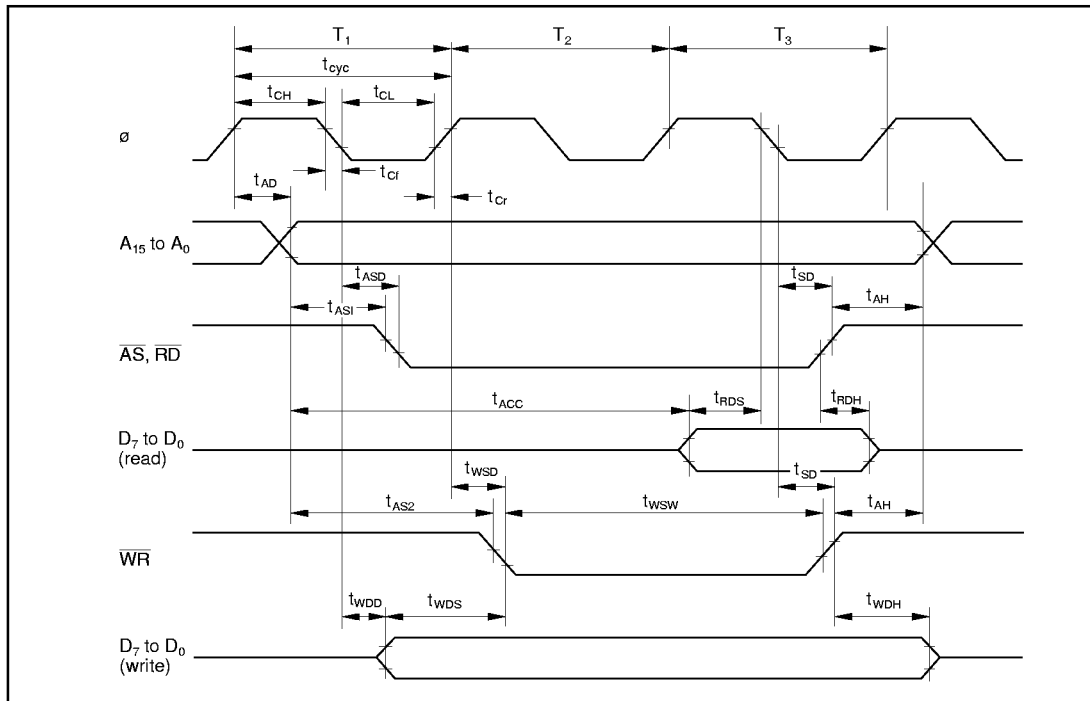

Figure 22-4 Basic Bus Cycle (without Wait States) in Expanded Modes
22.3.1 Bus Timing	Figures 22-4 to 22-5